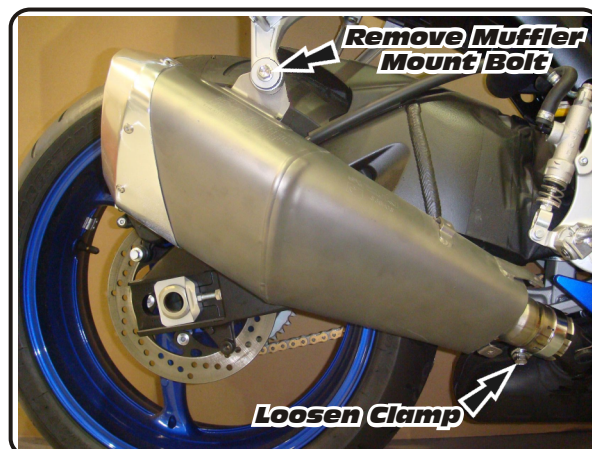

Fig. 2
- 2 Remove the stock muffler and the stock muffler gasket (see Fig. 2 for bolt locations).